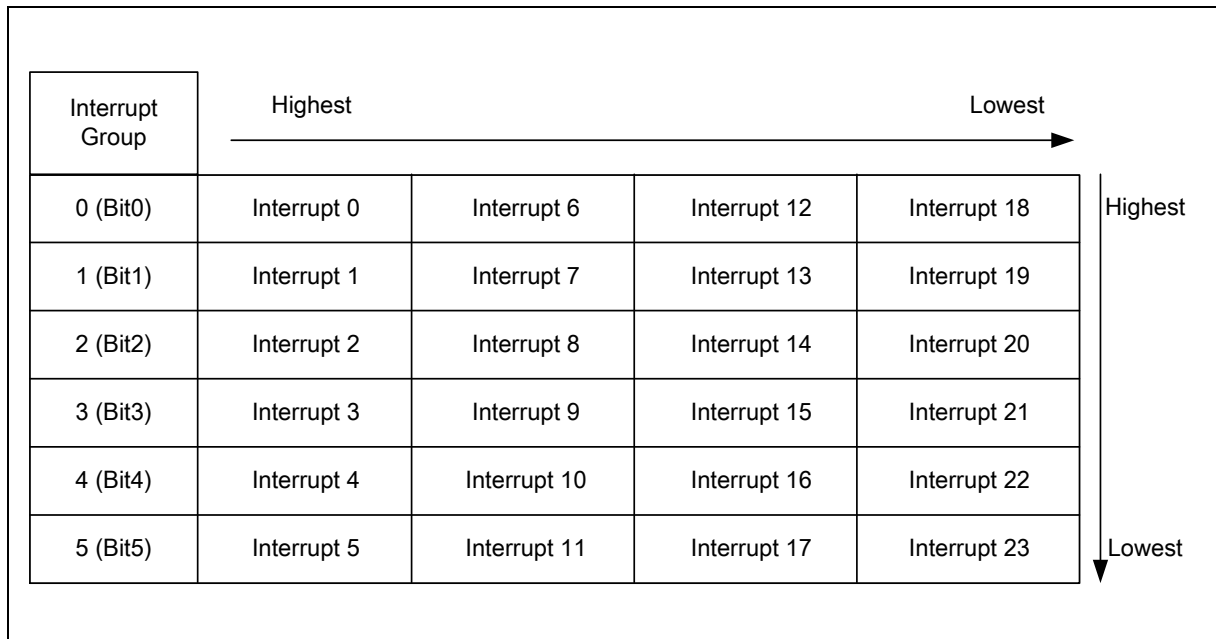

Figure 11. Interrupt Group Priority Level
Figure 11 introduces interrupt groups and their priority levels that is available for sharing interrupt priority. Priority of a group is set by 2 bits of Interrupt Priority (IP) registers: 1 bit from IP and another 1 bit from IP1.